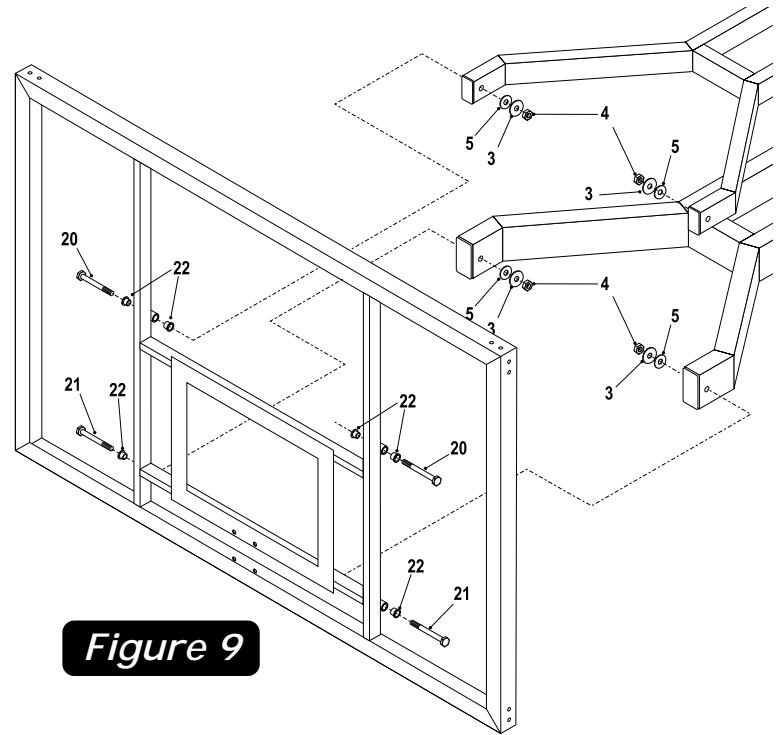

Figure 9
- With at least three capable people, raise the backboard assembly up and have the fourth attach Lower Board Arms to lower mounting tubes on backboard using two bolts (#21), four Board Bushings (#22) (shipped already installed), two plastic washers (#5), two washers (#3) and two hex nuts (#4). See Figure 9. Do NOT over tighten these bolts. This is a pivot point. Snug is tight enough.
- Attach Upper Board Arms to upper mounting tubes on backboard using two bolts (#20), four Board Bushings (#22) (shipped already installed), two plastic washers (#5), two washers (#3) and two hex nuts (#4). See Figure 9. Do NOT over tighten these bolts. This is a pivot point. Snug is tight enough.